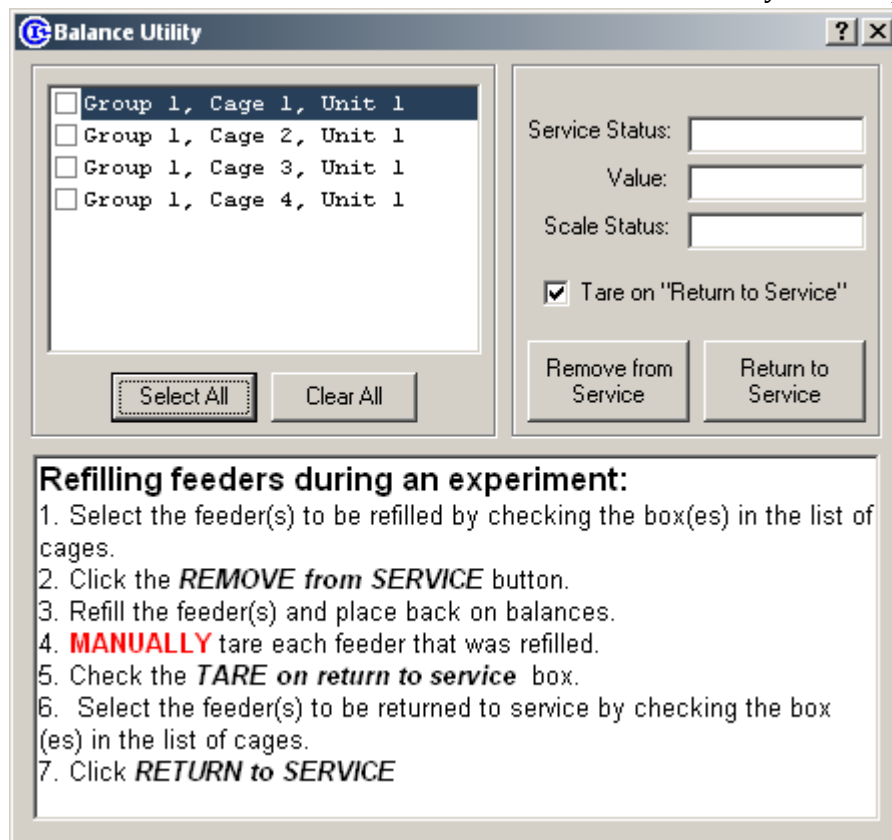

Figure 48 - Balance Utility
1. Click “Experiment >> Refill Feeders” to open the Balance Utility shown in Figure 48.